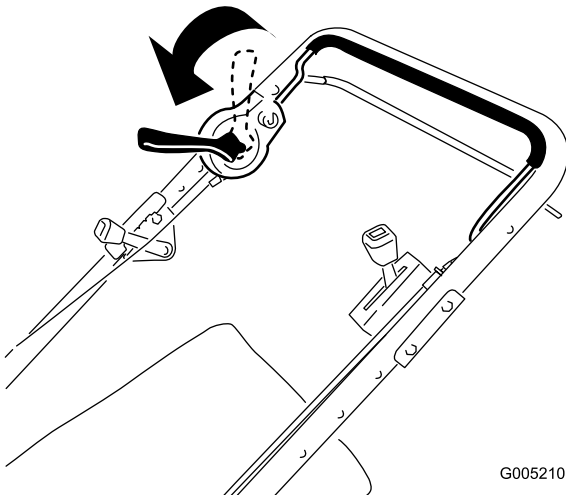

Figure 13
2. Move the blade control lever fully forward until the blade is engaged (Figure 13).